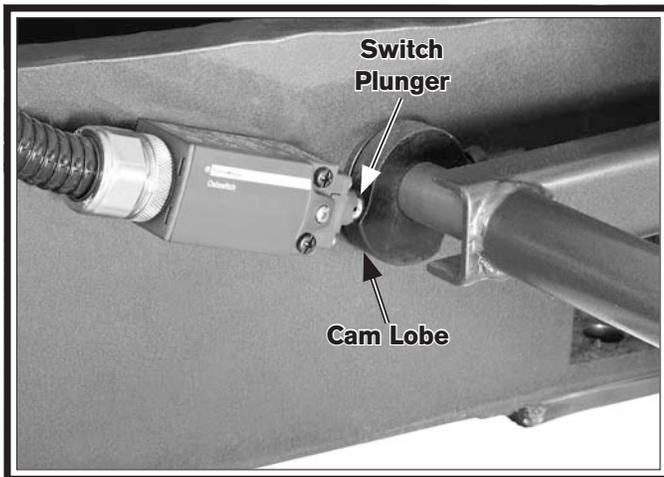

Figure 129. Brake switch.
6. Have another person step on the brake pedal while you verify that the cam lobe shown in **Figure 129** makes the brake switch plunger click in.